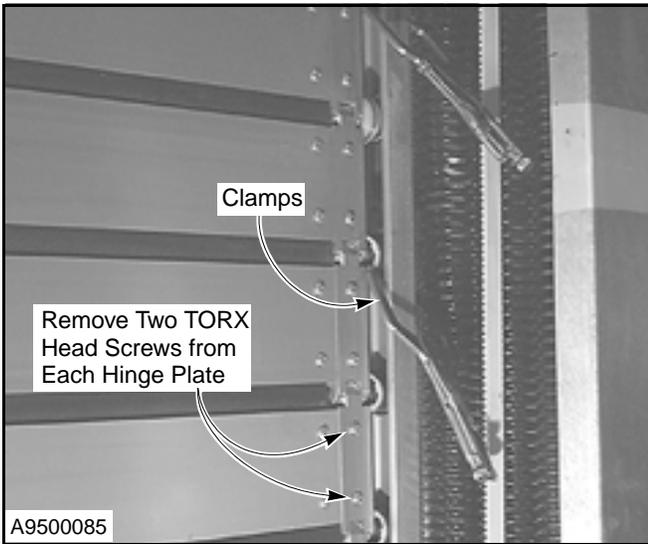

Figure 53
- Once the door is positioned, set the brake and clamp both sides of the door to the vertical track. Position clamps along both edges of the door, above and below the panel to be removed, to prevent the remaining panels from moving. (See Figure 53.)
5. At the ends of the door panel to be replaced, remove the two TORX® head screws, securing each hinge plate to the panel. (See Figure 53.)